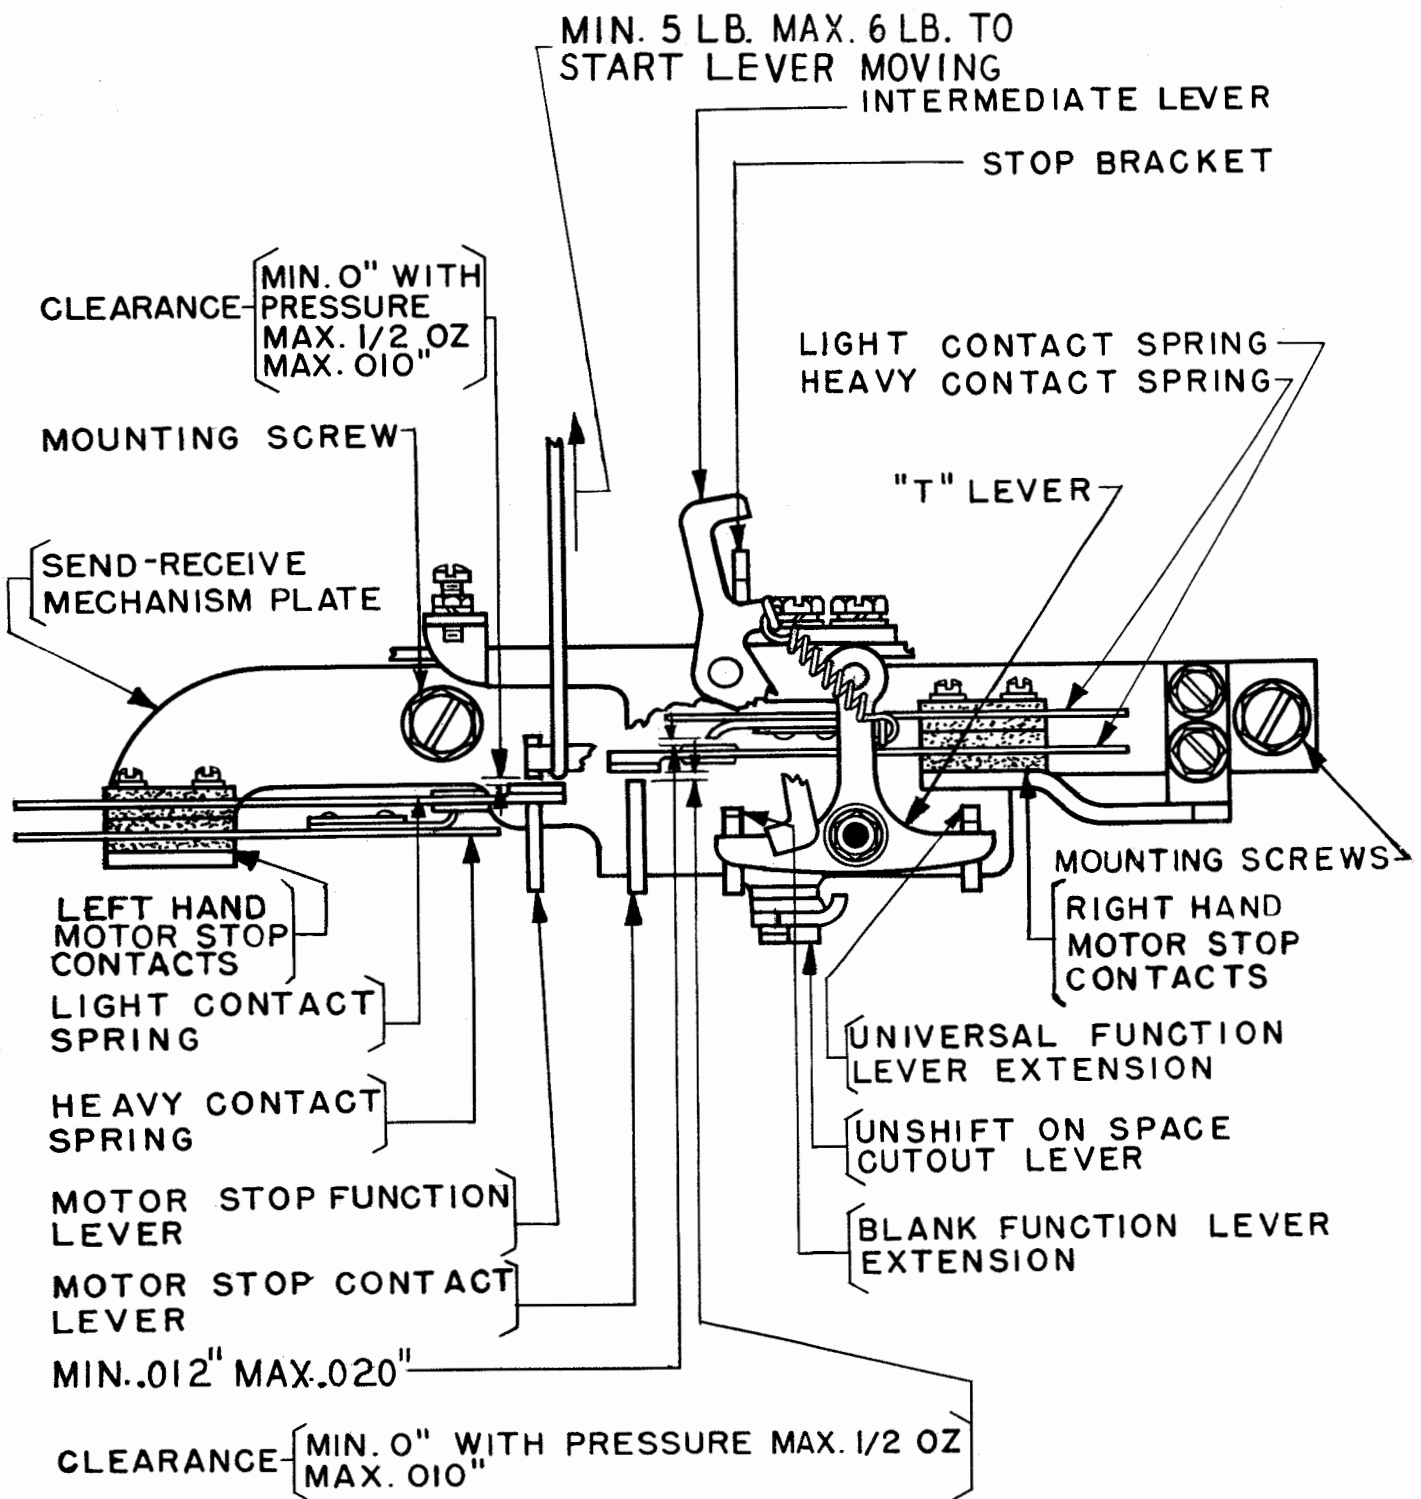

Figure 5
2.09 The Motor-stop Function-lever Spring should have a tension of minimum 5 pounds, maximum 6 pounds when the motor-stop function-lever is resting against the rear edges of its vanes but not selected. (See Figure 5.)
2.10 The Motor-stop Right Contact-spring Assembly closed by the motor-stop contact-lever should meet the following requirements. (See Figure 5.)
To Adjust: Bend the upper (heavy) contact-spring. Recheck (a). (See Figure 5.)
2.11 The Motor-stop Left Contact-spring Assembly closed by the motor-stop function-lever should meet the following requirements: (See Figure 5.)
(a) The fibre insulator on the upper (light) spring should clear the lobe of the motor-stop function-lever by not more than 0.006 inch when the printing-bail is in its extreme rear position. (See Figure 5.)
Note 2: For identification of parts see Figures 5 and 6.